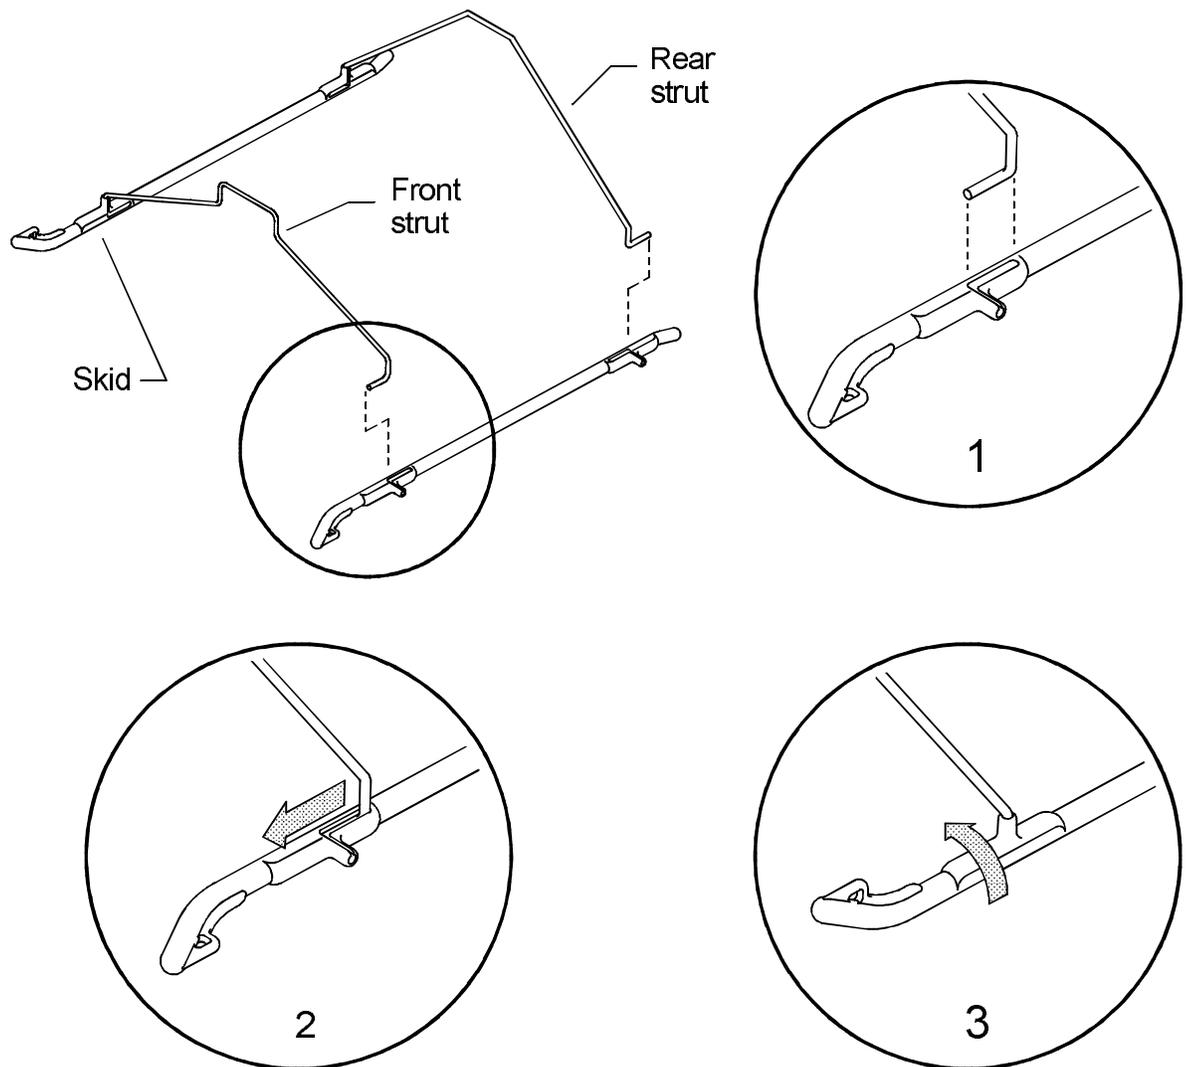

Figure 10-3.
- ❑ 11. Attach the plastic landing gear skids to the wire landing gear struts as shown in Fig. 10-3. Note that the front and rear struts are not the same.